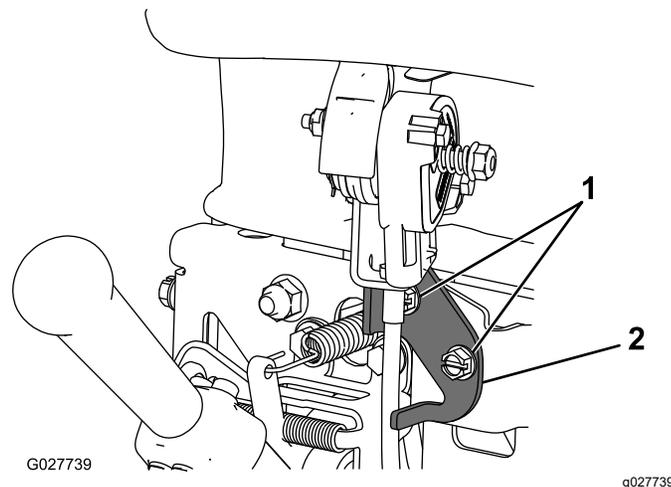

Figure 26
2. Loosen the 2 fasteners securing the throttle control (Figure 26).